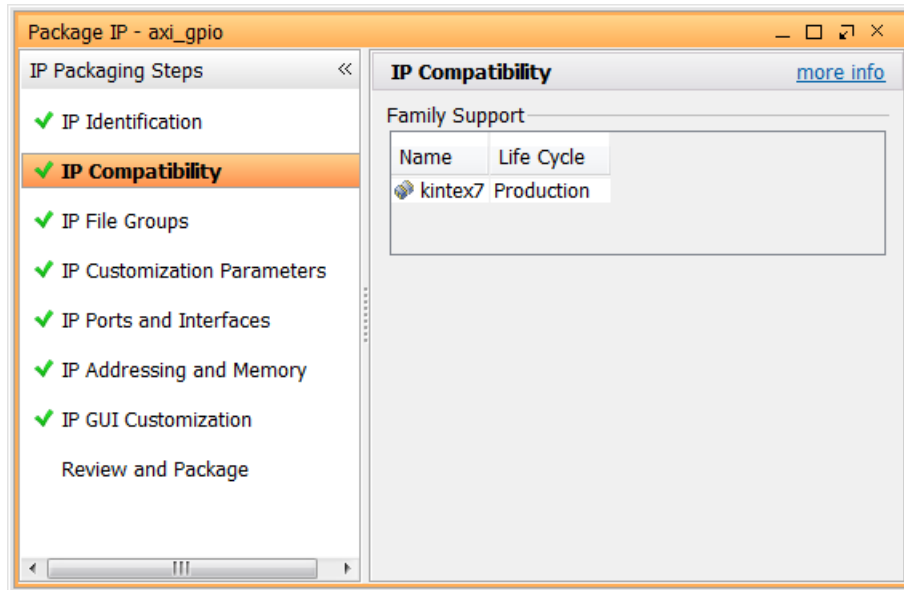

Figure 151: IP Compatibility Page
12. Click IP Compatibility to see the family of device supported for this project (FIGURE 151).